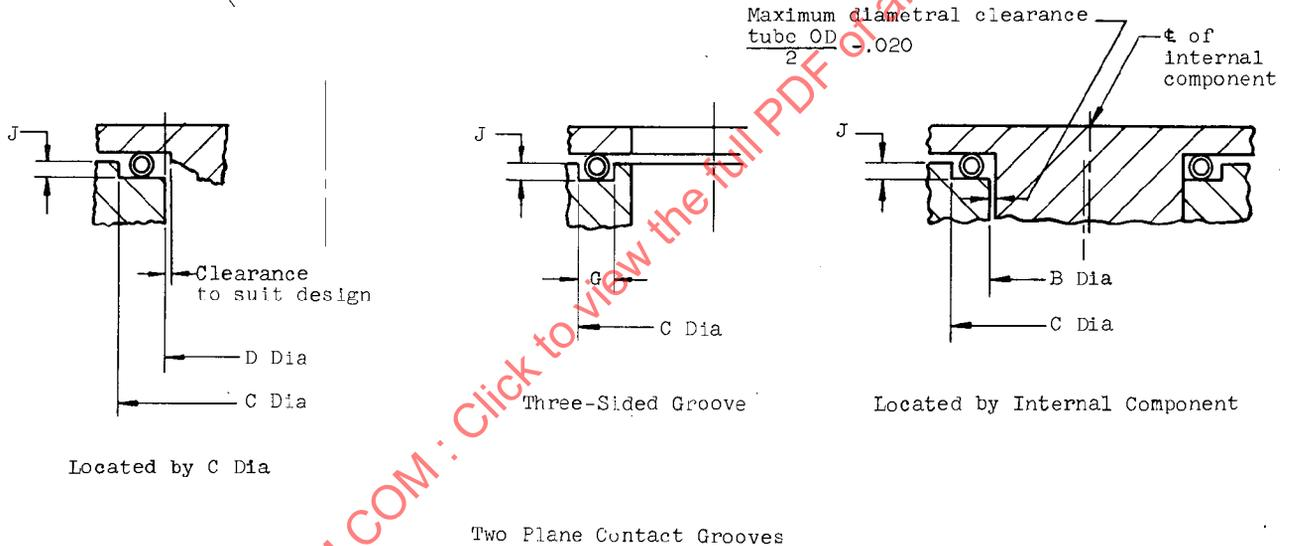
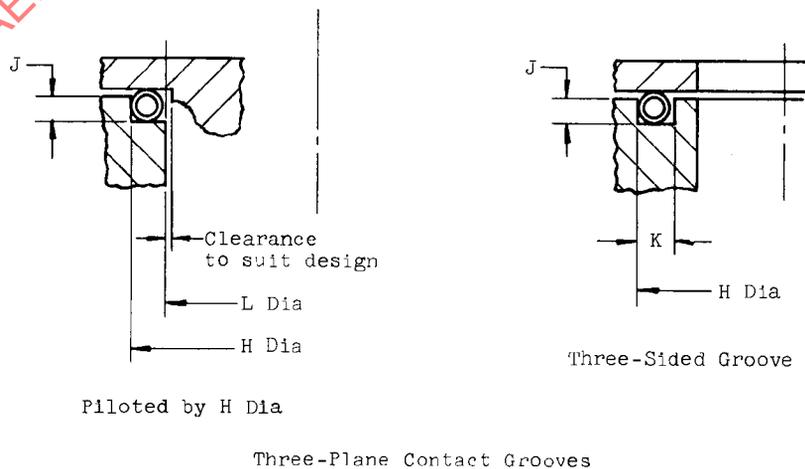

FIGURE 1
FIGURE 2
4. **RING SEAL AND GROOVE DATA:** Figures 1, 2, and Table I establish standard groove dimensions. Figure 1 shows the Type 1 groove; Figure 2 shows the Type 2 groove.
Dimensions for Figures 1 and 2